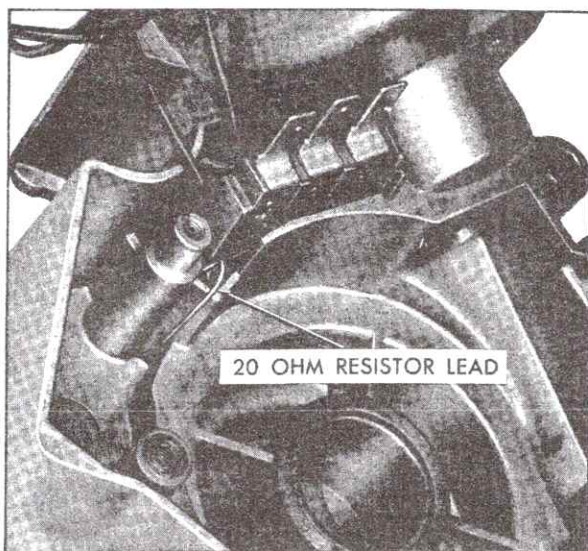

Fig. 12-31 Installing Terminal Board
1. Slide terminal board assembly into wiper housing, being careful to position terminal board resistor lead as shown in Fig. 12-31.
b. Connect 12-volt supply to No. 2 terminal, Fig. 12-31, and connect a jumper wire from No. 1 terminal to ground. Wiper should operate in "Hi" speed.